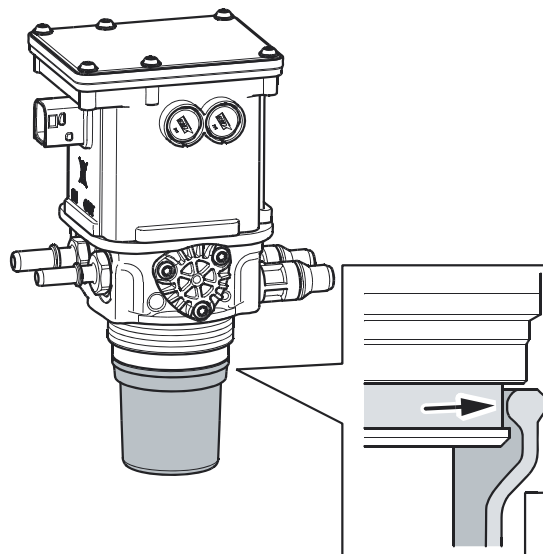

Figure 17 Sealing Diaphragm
6. Ensure that the edge of the diaphragm is sitting in the groove. See Figure 17.